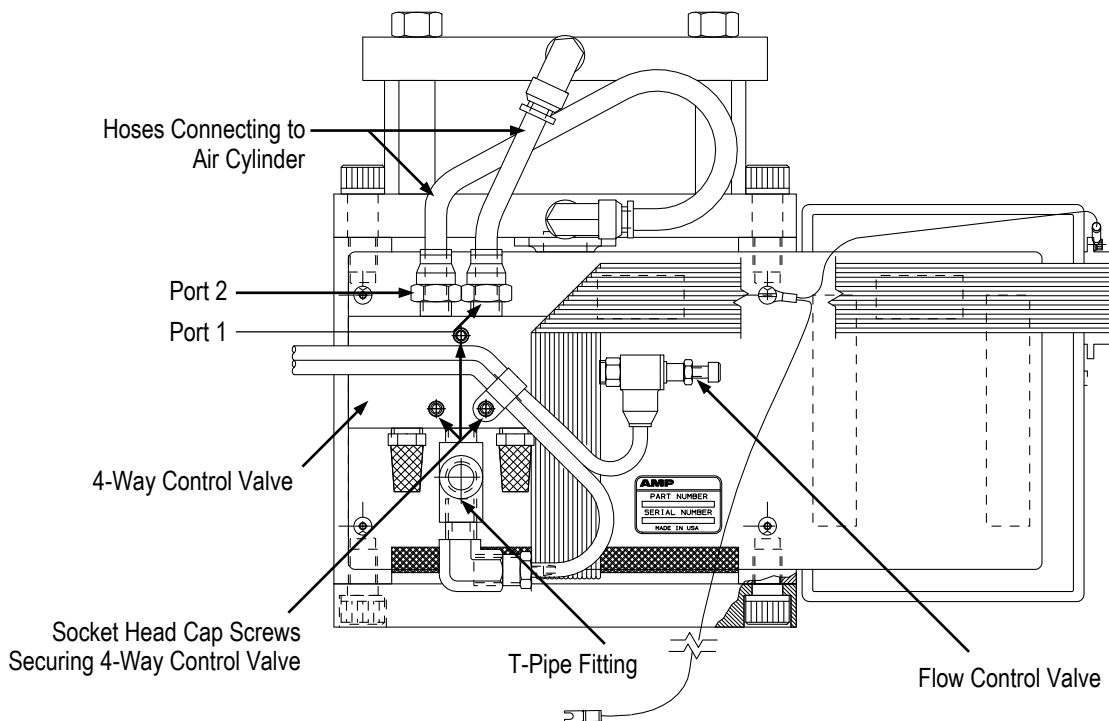

Figure 8
Adjustment of the time delay is achieved by closing or opening the flow control valve on the main power valve (4-way control valve). This adjustment is pre-set at the factory to 1.5 seconds and should not require further adjustment. However, if an adjustment is required, turn the flow control adjustment screw *clockwise* to increase the time delay or *counterclockwise* to decrease the time delay. See Figure 8.
The 4-way control valve is a self-contained unit that can be replaced. Refer to Figure 3 and Figure 8, and proceed as follows:
2. Remove the two hose connections to the air cylinder (refer to Figure 8) from the 4-way control valve.